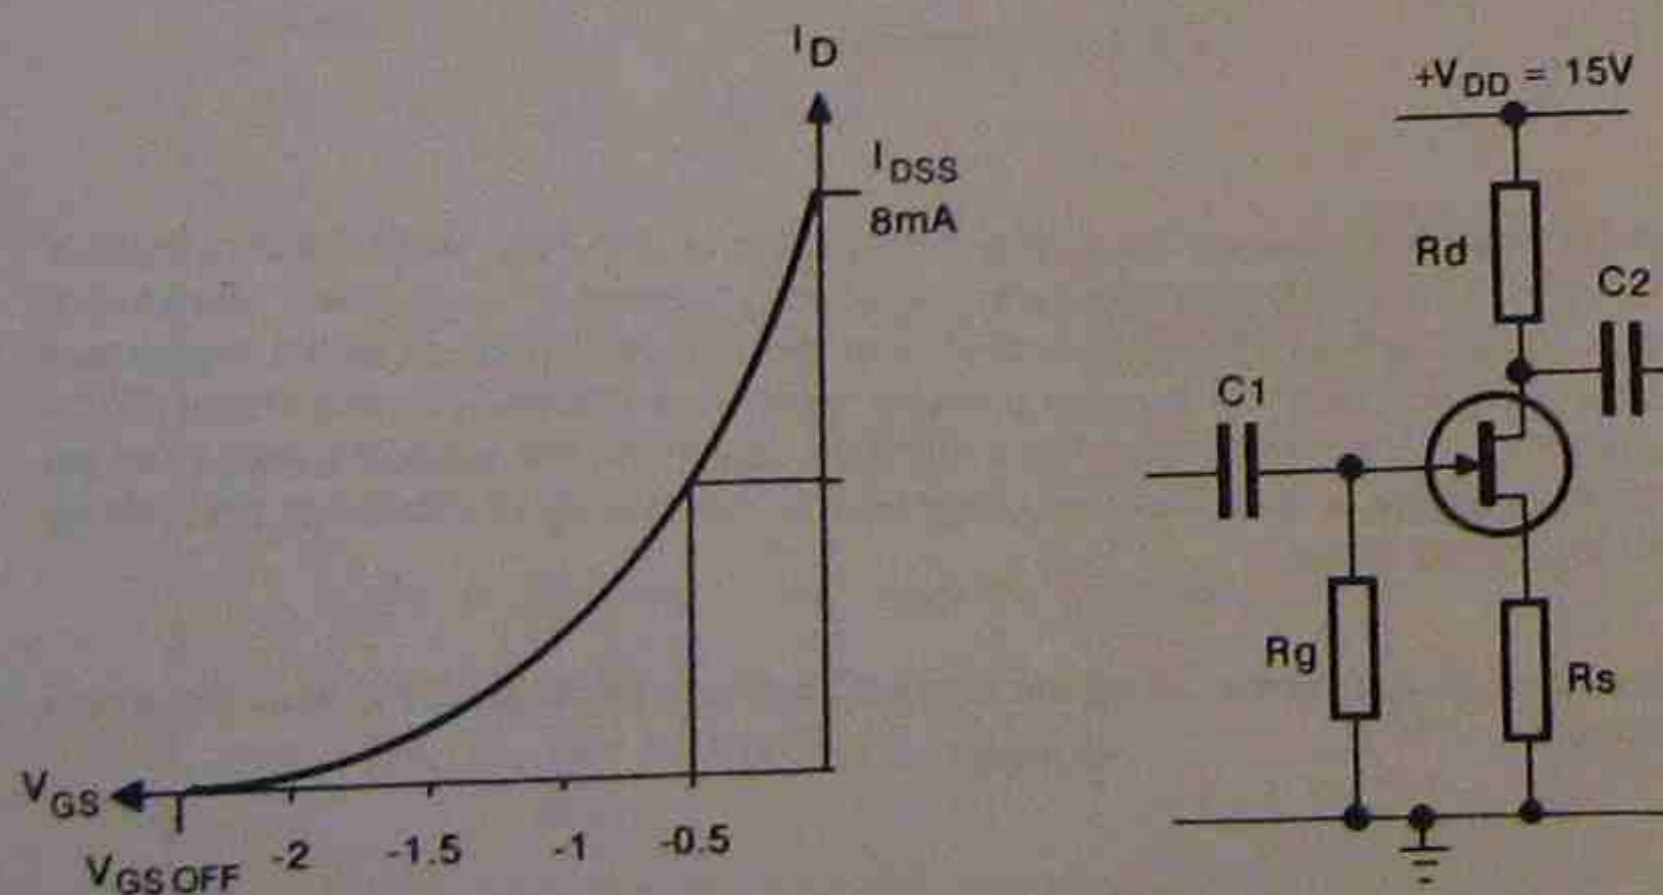

Fig.1
- For the circuit of Fig.1, use the transfer curve shown to calculate: